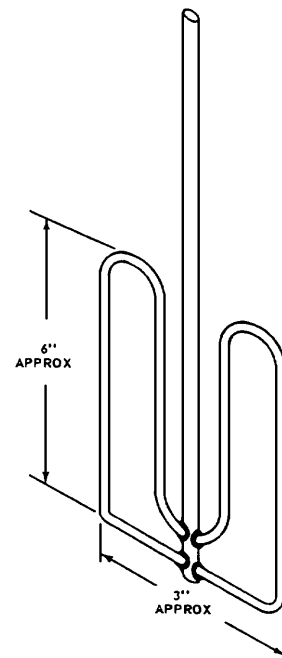

Figure 9. Mixing Paddle for Potting Compound
(5) When large quantities of sealant are to be mixed, mechanical mixing can be used to improve efficiency. Use an air motor with a T-shape, flat blade or similar mixing paddle attached to a steel rod (Figure 9). Limit speed of the paddle to 80 rpm since higher speeds will generate internal heat, reduce application life, and whip air into the sealant.
(6) Determine if mixing is complete by spreading a drop of sealant very thinly on a piece of white paper. Close examination should not reveal any specks or streaks. Do not mix sealant beyond point where tests show thorough mixing.
(7) If mixed compound is not used immediately, store (paragraph 22).